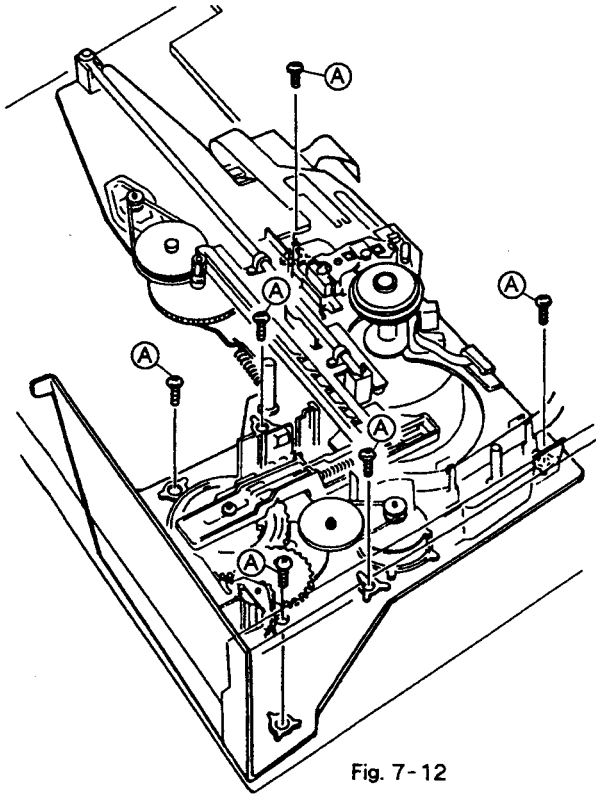

Fig. 7-12
7.8 REMOVING THE MECHANISM SECTION (Fig. 7-12)